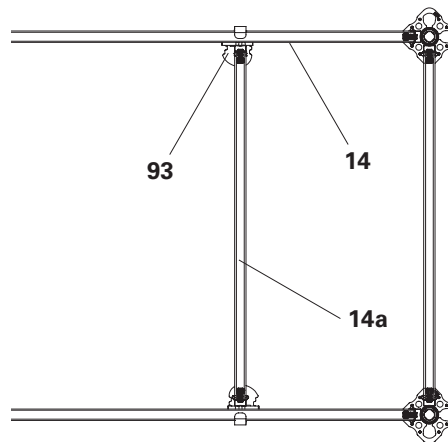

Fig. A7.03c
If Steel Decks UDG and EDS are used within a system in the longitudinal direction, a transition area must be installed. (Fig. A7.03c)
2. Install a Horizontal Ledger (**14a**) on 2 Ledger-to-Ledger Couplers UHA (**93**). Distance to frame column 50 cm. (Fig. A7.03c) Do not tighten the wedges yet.